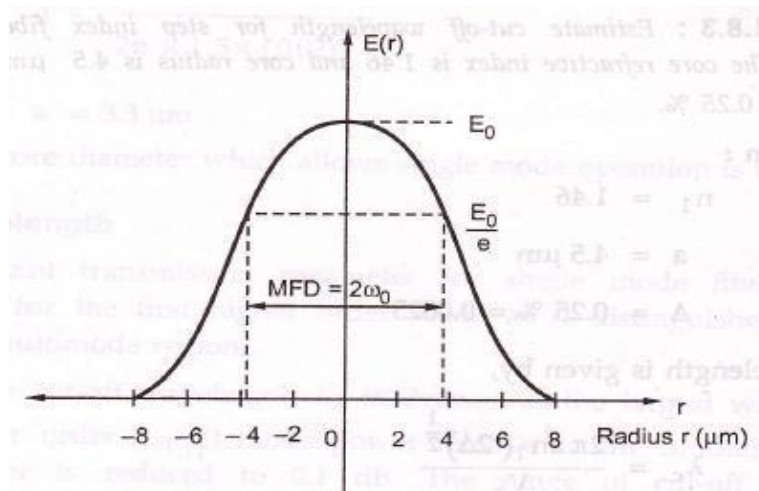

Fig. 1.8.1 Mode field diameter
- In single mode fiber for fundamental mode, on field amplitude distribution the mode field diameter is shown in fig. 1.8.1.